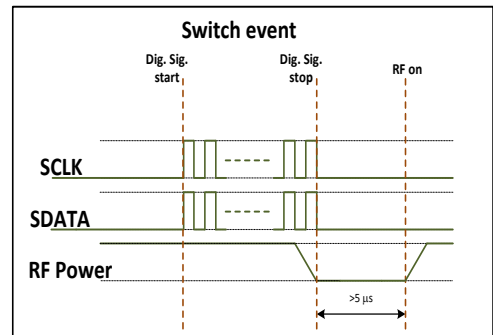

Figure 3 Switch Event Timing
- RF power must not be applied during switching events. To ensure this, remove RF power before completing a register write that will change the switch mode. (see figure 3)